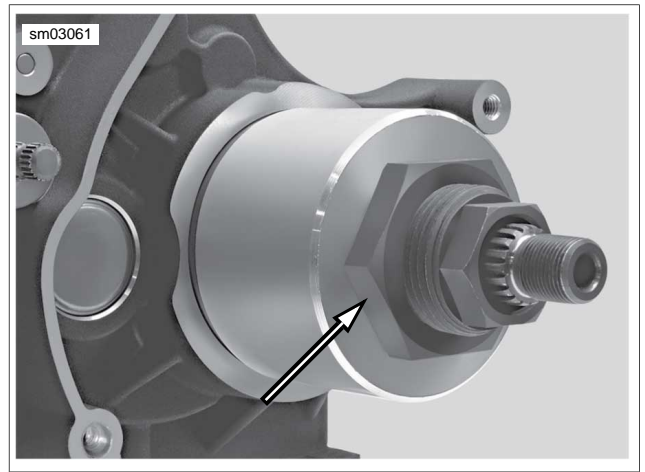

Figure 7-51. Install Nut (Part No. HD-47856-6)
6. See Figure 7-51. Thread NUT (Part No. HD-47856-6) onto end of adapter, until it tightens against installer.